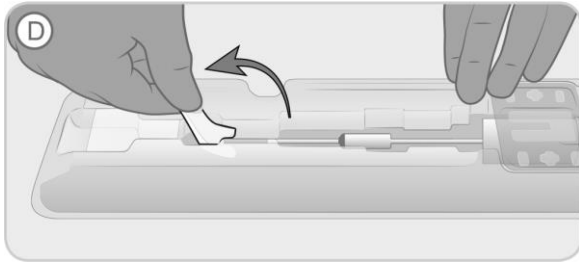

Figure 5. Flip the funnel lever to release device from tray.
- D. Flip the funnel lever to a vertical position to release the delivery device from the loading funnel (indicated on the tray with "D"), Figure 5.